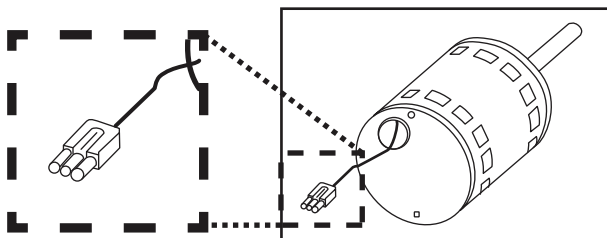

Fig. 7 — Winding Leads
- a. Using an Ohm meter set to the 200Ω scale, measure resistance as follows (see Fig. 7).
- Blue (A) to Black (B)
- Blue (A) to Red (C)
- Black (B) to Red (C)